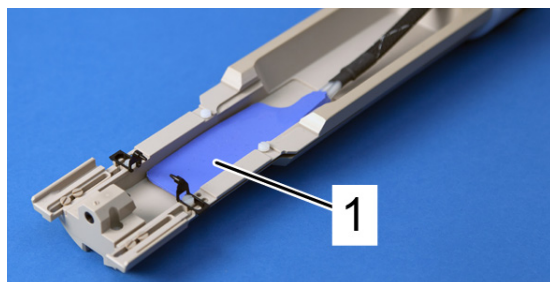

Figure 3.2: Animal Bed with heating cover (1).
A heating cover (Figure 3.2 (1)) to stabilize the body temperature of the mouse during investigation is provided with the Animal Bed. The heating cover has to be connected to a conventional water heating system.